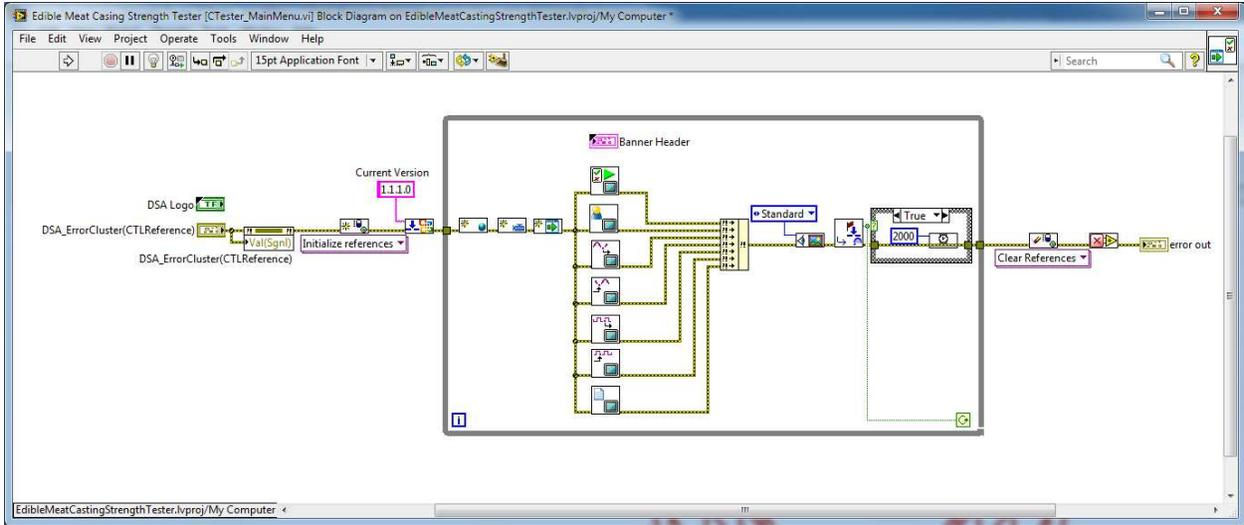

Figure 1: Software IP
The Edible Meat Casing Strength (EMC) system was created due to DSA's client's needs for a robust, reliable and affordable hardware and software solution for predicting the strength properties of an edible meat casing. When the strength properties of an edible meat casing are known DSA's client would be able to tailor the physical and chemical makeup of the casing to maximize the casing's overall strength while minimizing the material needed to produce the casing. This optimization provided the best profit margins without compromising quality. To control and acquire data, DSA leveraged National Instruments LabVIEW's development environment with its unprecedented ability to integrate with hardware (National Instruments cDAQ USB hardware in this case) while providing the ability to create custom Intellectual Property (IP) (Figure 1) designs to specifically address the client's needs.